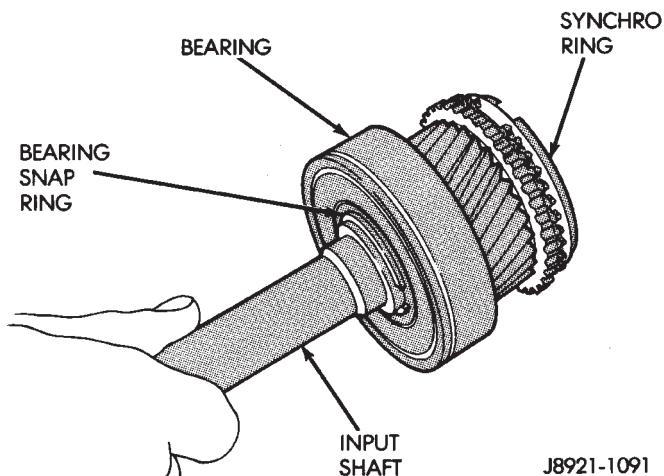

Fig. 61 Input Shaft Components
(9) Remove synchro ring from input shaft (Fig. 61).
(10) Remove bearing snap ring and press bearing off input shaft (Fig. 61).